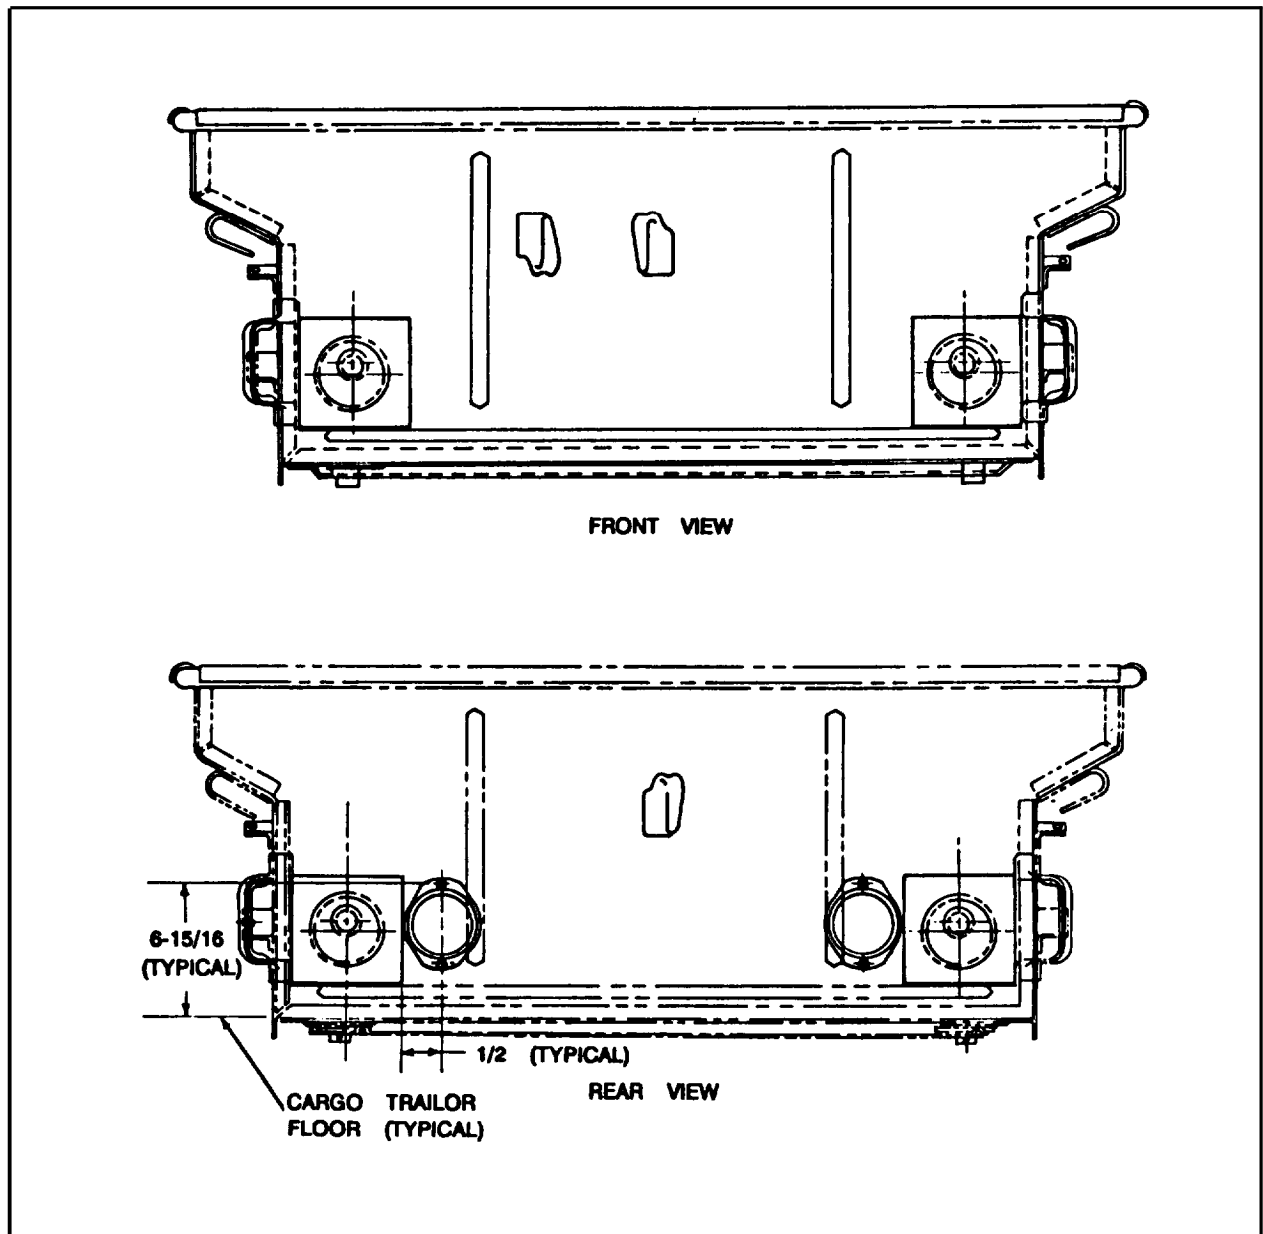

Figure 19. Anchor location and reflector mounting dimensions-front and rear panels
(7) Position two reflectors on tailgate and locate reflector mounting holes (figure 19). Drill four 1/4-inch diameter holes in tailgate. Install reflectors using screws, washers, and nuts removed in (1) above.
(8) Clean, prime, and paint in accordance with TM 43-0139.